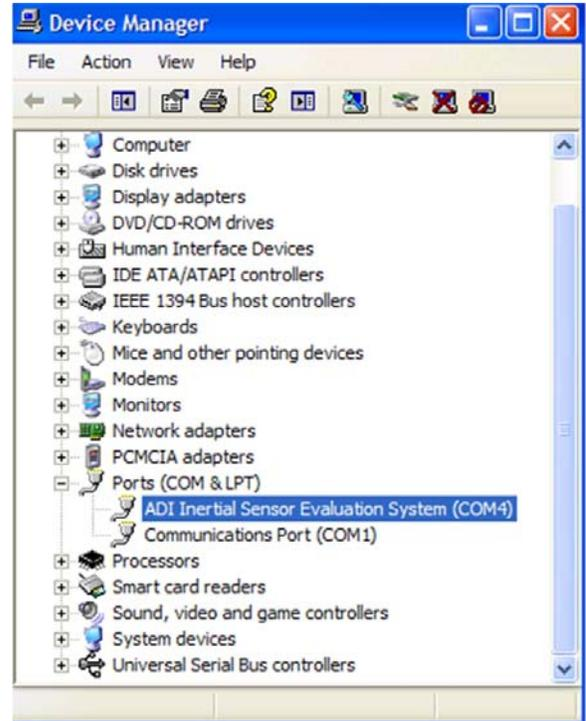

Figure 6. **Device Manager** Showing the COM Port Number
3. Select **Device Manager** and expand the **Ports (COM & LPT)** menu item as shown in Figure 6. **ADI Inertial Sensor Evaluation System (COM4)** is listed with an assigned COM port number in parenthesis (see Figure 6).
At this point, the functionality of the GUI completely deactivates. Before testing any devices, associate the software GUI with the previously installed hardware through the COM port. See the **PC Device Manager** area under the **Ports (COM & LPT)** submenu to determine which COM port is assigned to the Analog Devices inertial sensor evaluation system (see Figure 6).